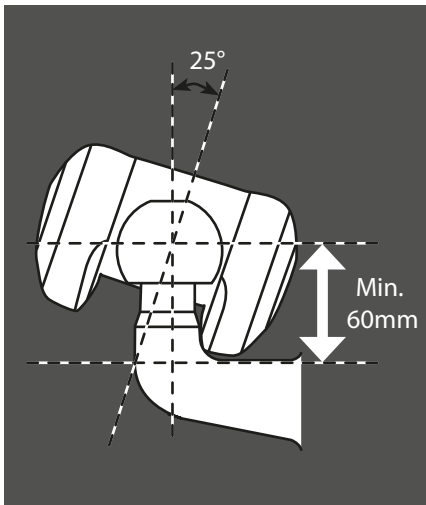

Figure 2 - Max suitable rotation of overrun device is 25°.
2. Swan Neck towbars (fixed or detachable) are suitable for use with the AKS 3004 providing they comply to EC Directive 94/20 or UNECE R55 and have the required minimum 60mm clearance, measured from the centre of the towball (Fig 2).